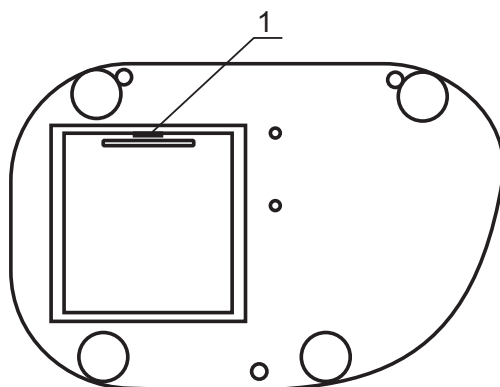

Fig.1 Bottom panel
- Insert a flat sharp pin into the small socket according to the fig.1/1 on the underside and open the battery compartment.